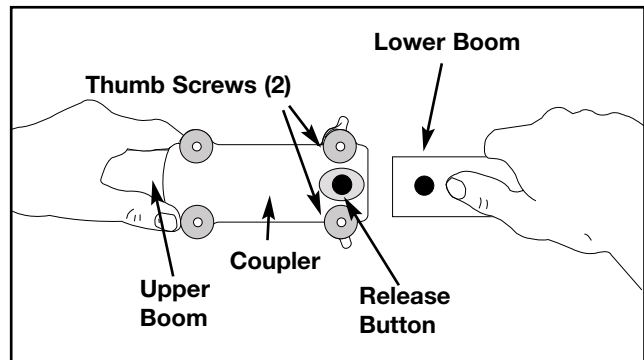

Fig. 12
3. Pull the lower boom straight out of the coupler (Fig. 12).
1. Loosen the wing screws. This will allow the lower boom to be inserted into the coupler (Fig. 12).